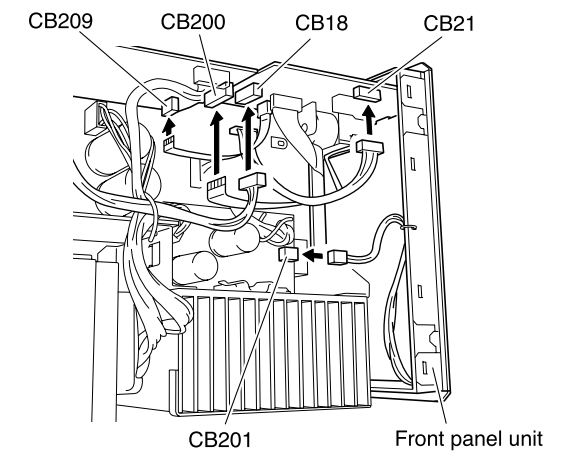

Fig. 6
- m. With the front panel unit set on its side, reconnect 5 connectors (CB18, CB21, CB200, CB201, CB209). (Fig. 6)